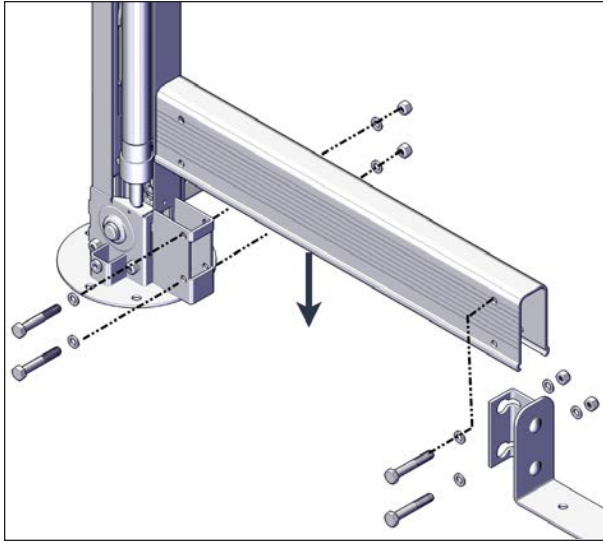

FIGURE 40: SHORT U-FRAME INSTALLATION
15. Fasten a short U-frame to each end of the spa entrance U-frame link and then install the entire assembly between the front posts. Use four hexagonal 5/16"-18 x 2" bolts, four 5/16"-18 nylon-insert lock nuts, and eight 5/16" washers (4 per side). Use the 1/2" (13 mm) socket wrench and spanner, see Figure 40.